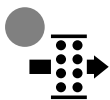

Fig. 2 Explanation of symbols
LEDs show current airflow level (figure 2, pos. 3).